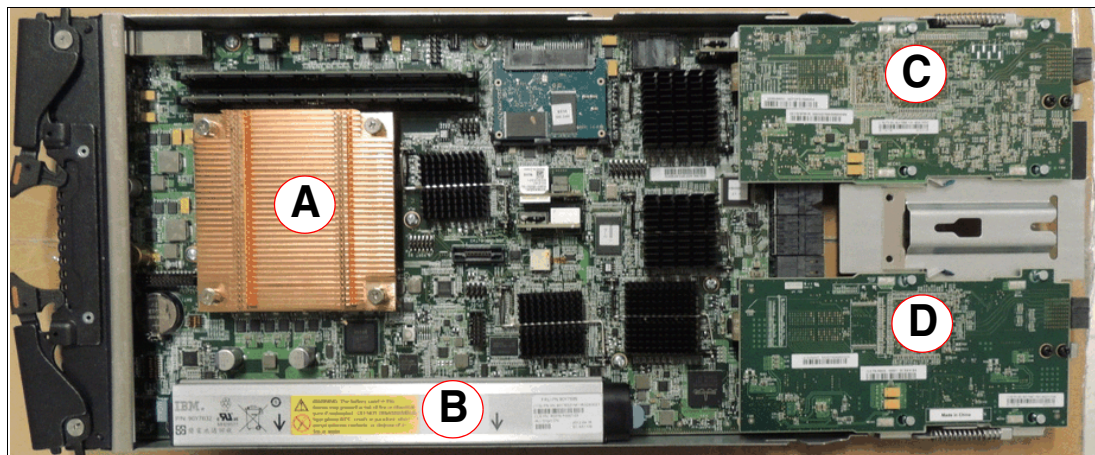

Figure 2-3 Components and board layout of the control canister
The control canister is responsible for the management of all the virtualization, RAID functions, advanced features and functions of the IBM Flex System V7000 Storage Node and all command and IO to its internal drive slots and the expansions that it is connected to. The control canister is a Customer Replaceable Unit (CRU). Figure 2-3 is a picture of the control canister with its cover removed.
In Figure 2-3, the processor (A) is a quad core Jasper. There are also two DIMMs which make up the cache memory and the battery backup unit (B) which beside the control canister is also a Customer Replaceable Unit (CRU).